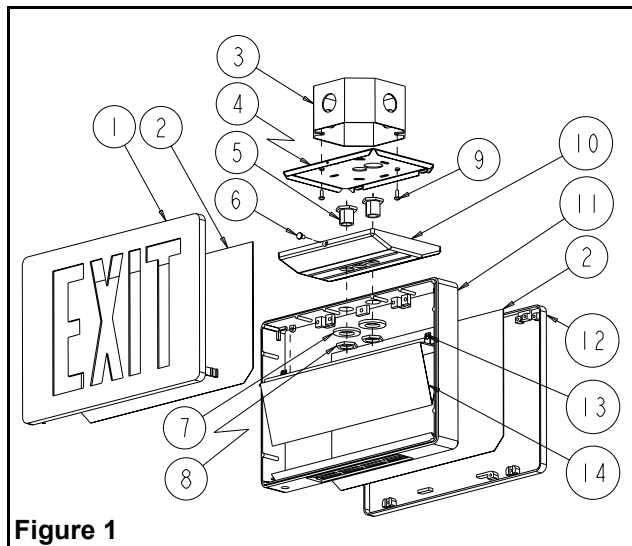

Figure 1
- e. Make sure the securement screw is accessible (see fig. 1 and 2). Use existing screws in junction box to secure canopy back plate to the junction box.